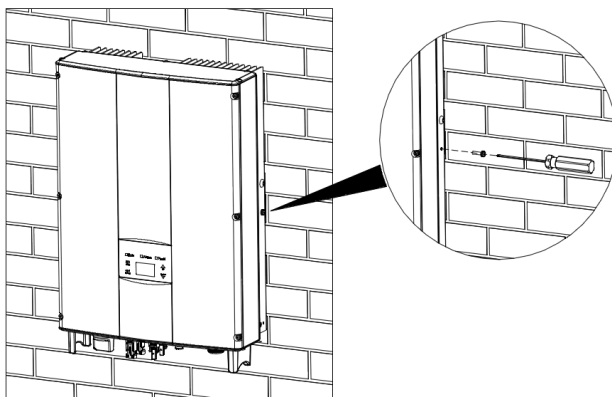

Figure4.11 Installation of M5X20 bolts
- (6) Ensure the inverter is installed properly and tighten the M5X20 bolts into the screw holes on the left and right side of inverter(tightening torque is $3\text{N}\cdot\text{m}$). As shown in Figure 4.11.